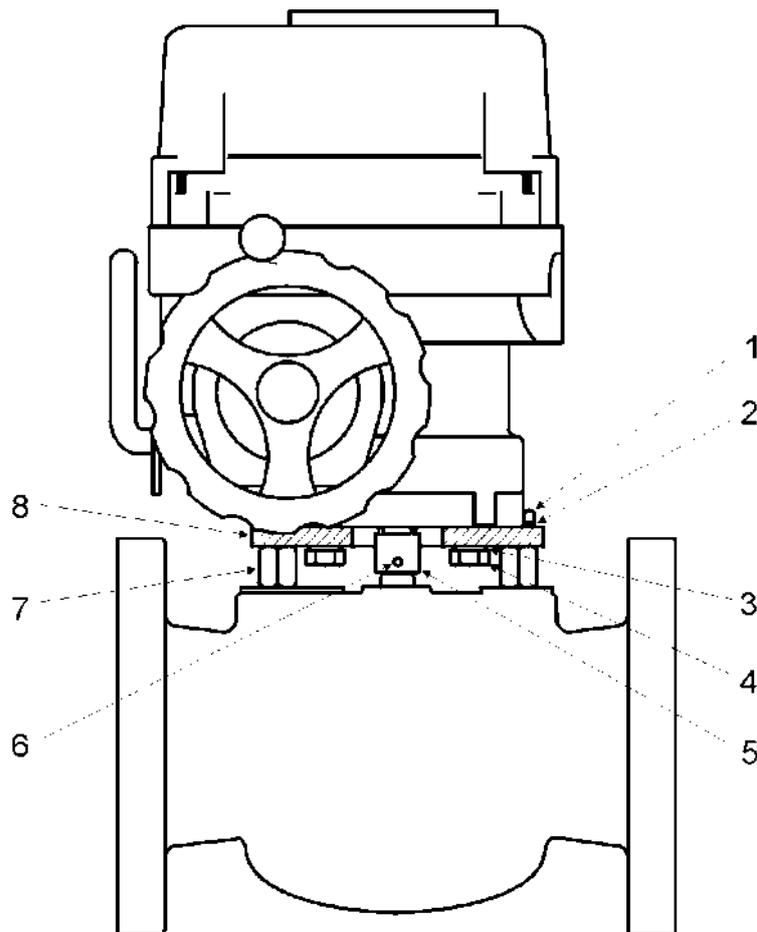

Fig 10 Actuator to Valve Body Assembly (typical)
4. Look at the coupling (item 5, Fig 10, page 30) and note what position it is in relative to the valve body. If a letter 'R' or a vertical line is present on the coupling, use that for ease of reference.
6. On versions 2GEF and 4GEF, slacken four bolts (item 4, Fig 10, page 30) to release the actuator from the mounting plate. For all other versions, slacken four bolts (item 1, Fig 10, page 30).
- Cable must be routed inside the actuator as illustrated in Fig 10 to avoid the possibility of interfering with moving parts.